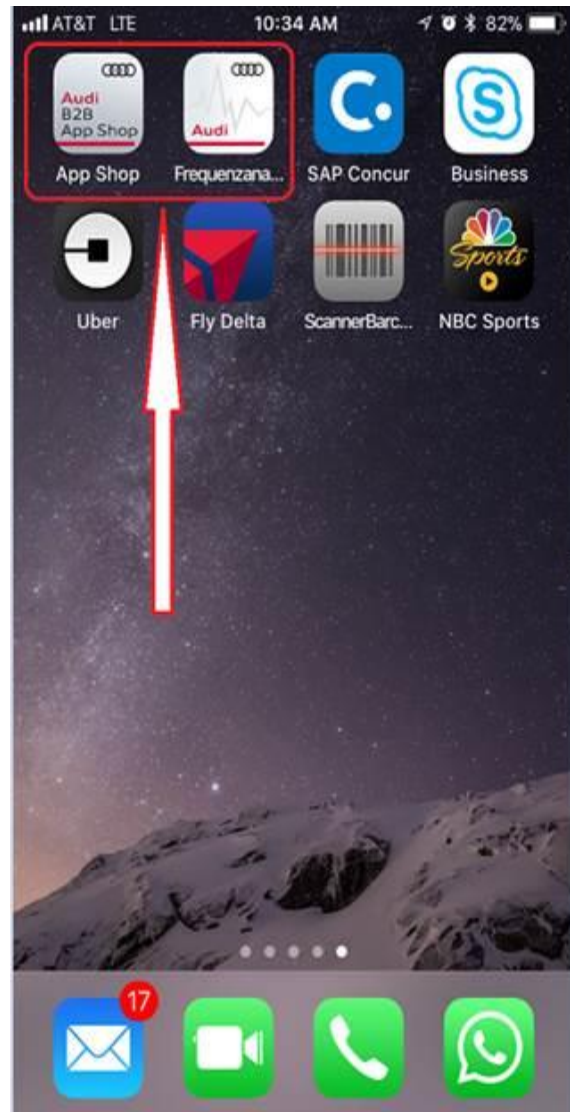

Figure 4. Example of the downloaded app and app shop.
6. Example of the downloaded App in an iPhone (Figure 4).